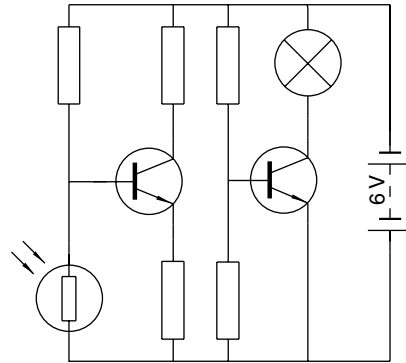

Fig. 9.19 Example using the **DesignCenter** – the completed circuit
Example using the DesignCenter (Fig. 9.19)
6. Complete the circuit drawing as shown in Fig. 9.19.
Fig. 9.19 does not represent an authentic electronics circuit.